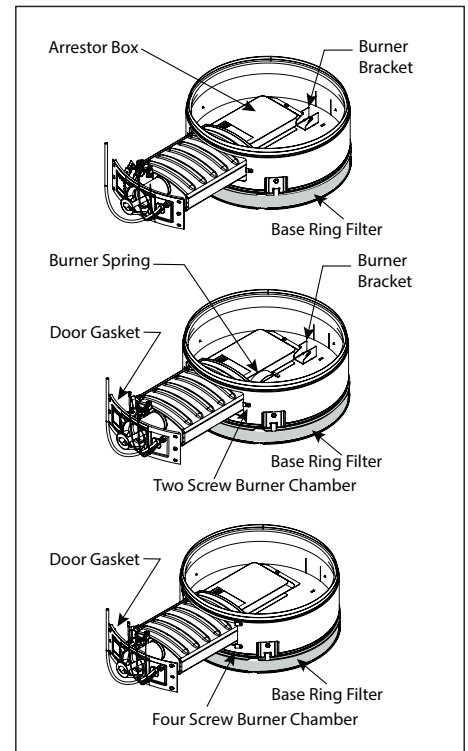
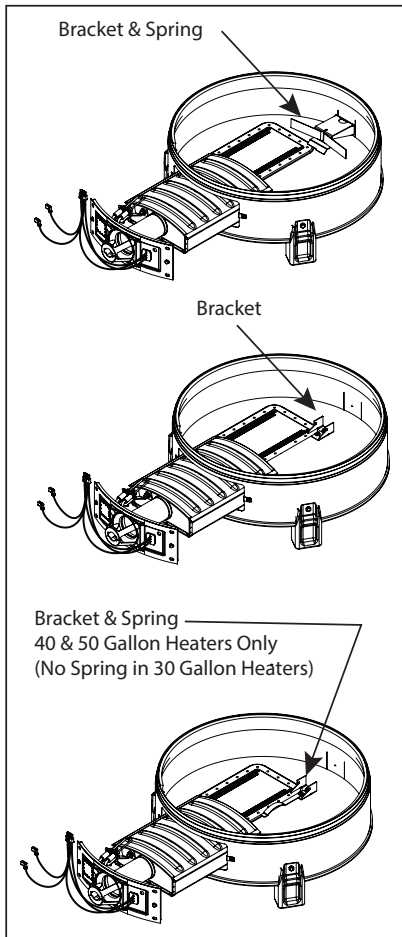

Figure 4: Ring Base Heaters
Figure 5: Leg Base Heaters
- 3 Insert the burner assembly into the burner compartment, making sure that the burner assembly sits firmly against the burner bracket and spring (if equipped) inside the combustion chamber. See Figure 4 for ring base heaters and Figure 5 for leg base heaters.